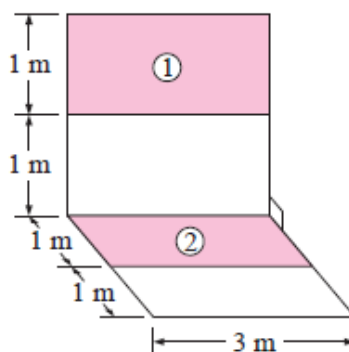

Figure 1
5. a. Calculate the shape factor F_{1-2} for the given figure 1.